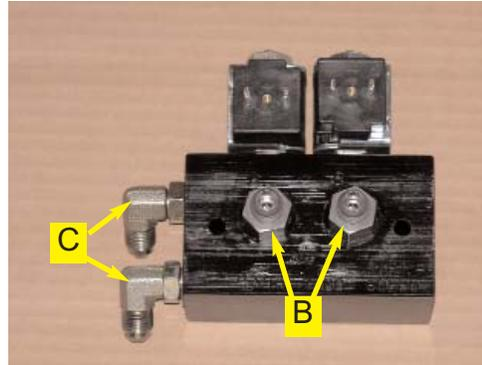

Figure 1. Prepared Automated Steering Block.
- b. Install the elbow adapter fittings (C) into the P and T ports of the Automated Steering Block. (Figure 1.)
- c. Install the check valve adapter fittings (B) into the A and B ports. (Figure 1.)